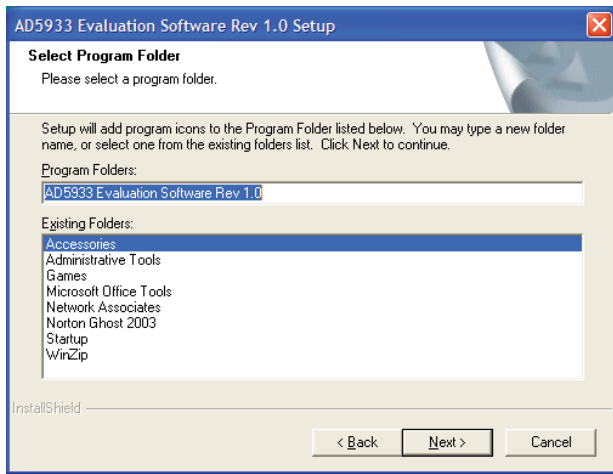

Figure 5. Select Analog Devices Directory
- Choose the **Analog Devices** directory (see Figure 5). If the **Analog Devices** folder does not yet exist, create an **Analog Devices** folder and add the program icon to this new folder.